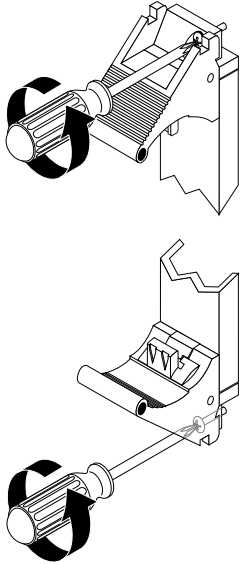

FIGURE 6-4 Loosening the Ejection Lever Captive Screws
9. Using a No. 2 Phillips screwdriver, loosen the two captive screws inside the card’s ejection levers, one on top and one on the bottom (FIGURE 6-4).